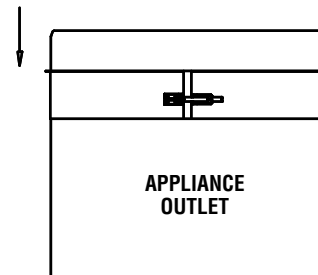

Figure 38 - Single wall adaptor
2. First, slide the retaining band over the appliance outlet and tighten it with supplied bolt. (See **figure 38**).